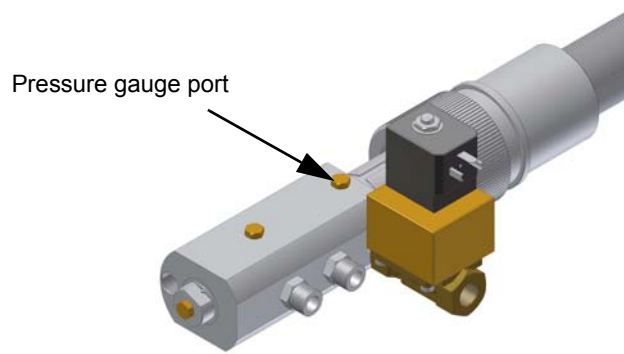

Fig. 18
- 7 The nozzle supply pressure is already factory-set and must not be changed. Only if necessary, adjust the supply pressure as follows (see related paragraph); insert a pressure gauge into the port shown on Fig. 18 and act on the pump adjusting screw **VR**